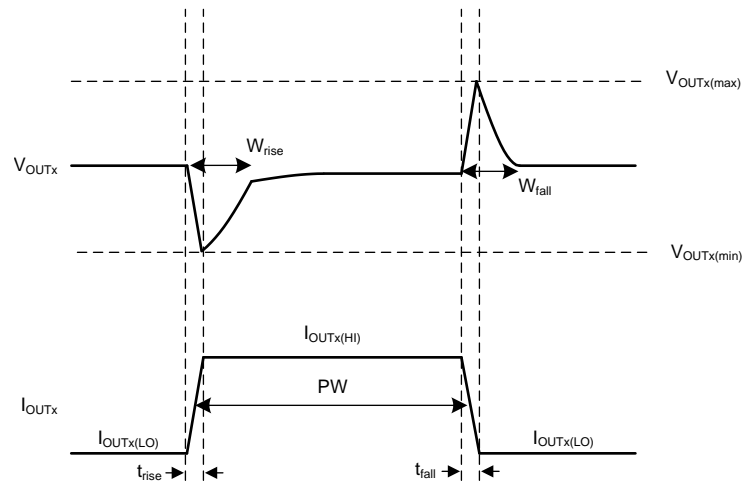

图 54. Simplified Load Transient Waveform
The transient response peaks ($V_{OUTx(max)}$ and $V_{OUTx(min)}$) are improved by using more output capacitance; however, doing so slows down the recovery time (W_{rise} and W_{fall}). 图 54 shows these parameters during a load transient, with a given pulse duration (PW) and current levels ($I_{OUTx(LO)}$ and $I_{OUTx(HI)}$).